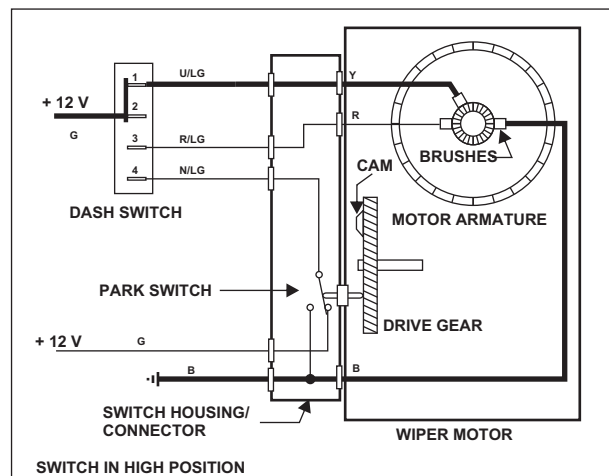

FIGURE 6
B). HIGH SPEED OPERATION: Refer to **figure 6**. In this mode, the dash switch is in the high speed position, and current flow is as shown. This is basically the same configuration as the normal mode, except the power flows through the high speed brush rather than the normal speed brush. Internally, terminal 2 of the dash switch is connected to terminal 1.